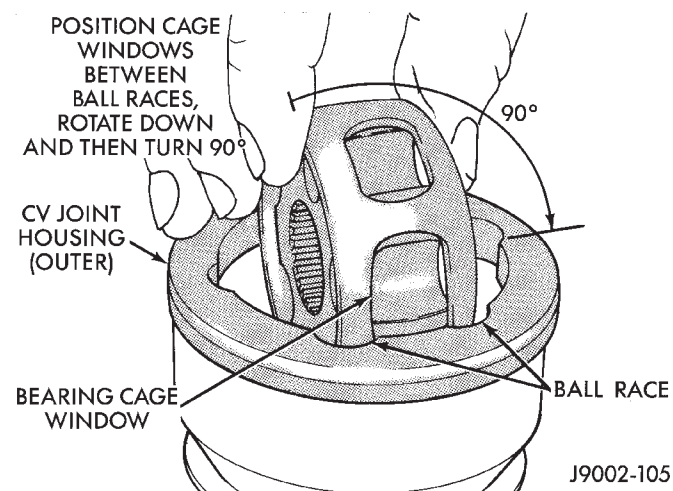
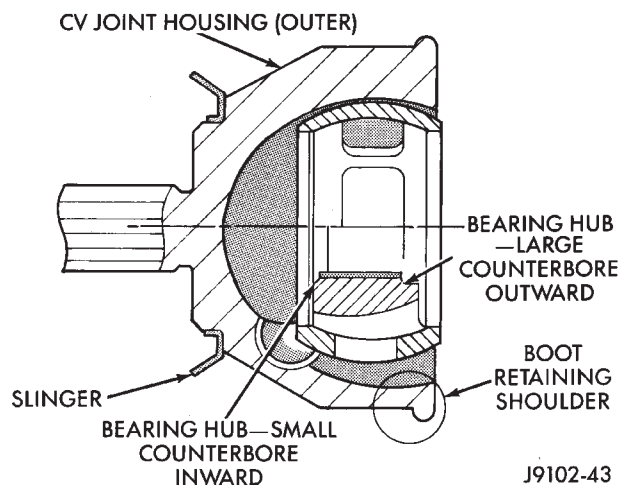

Fig. 20 Bearing Cage & Hub Installation
Fig. 21 Bearing Cage & Hub Installed In Housing
(4) Insert bearing cage/hub into the housing (Fig. 20). Rotate the cage/hub 90° to complete the installation (Fig. 21).